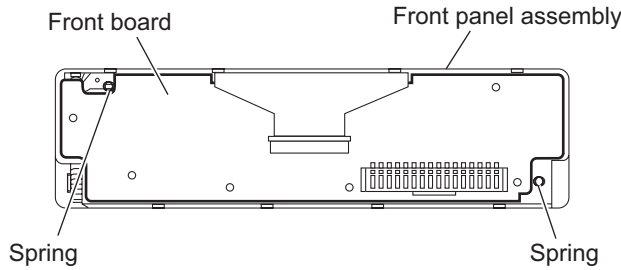

Fig.14
- (3) Take out the front board from the front panel assembly. (See Fig.14.)